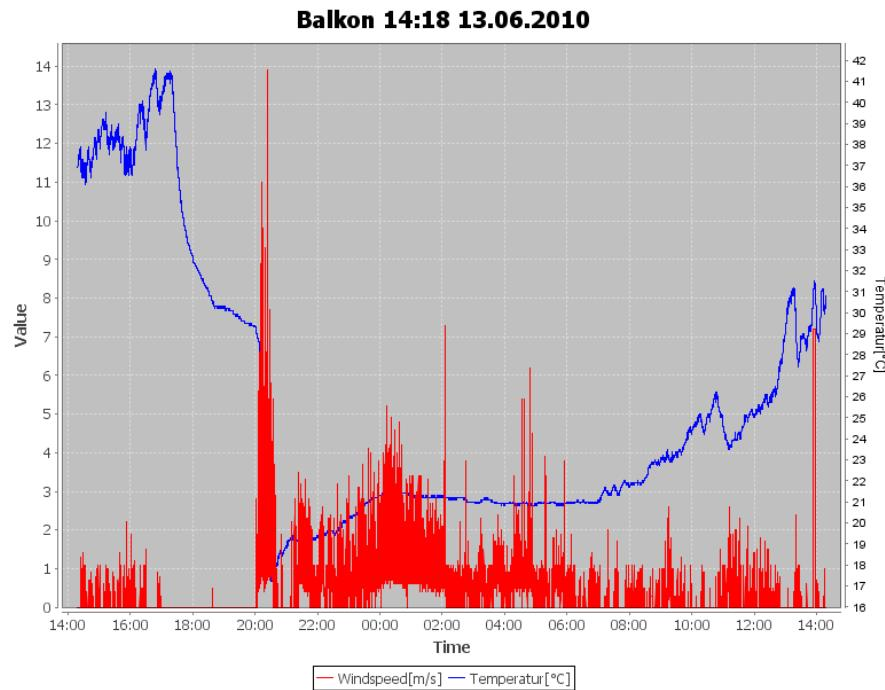

Figure 4.3: Last 24 hours of two separate parameters in one plot
**Hours** represents the values of the last hours for the plot. The amount of the hours is specified in the plot configuration. It's the number after the timebase. Figure 4.3 provides an example of an 24 hour plot.